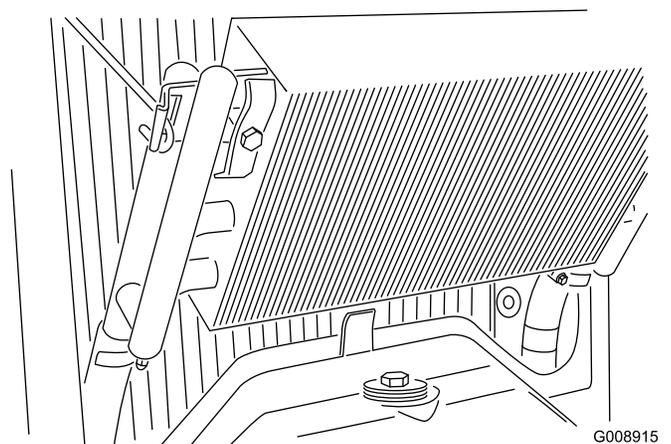

Figure 51
3. Unlatch the oil cooler and pivot it rearward (Figure 51). Clean both sides of the oil cooler and radiator area thoroughly with water or compressed air. Pivot the oil cooler back into position.